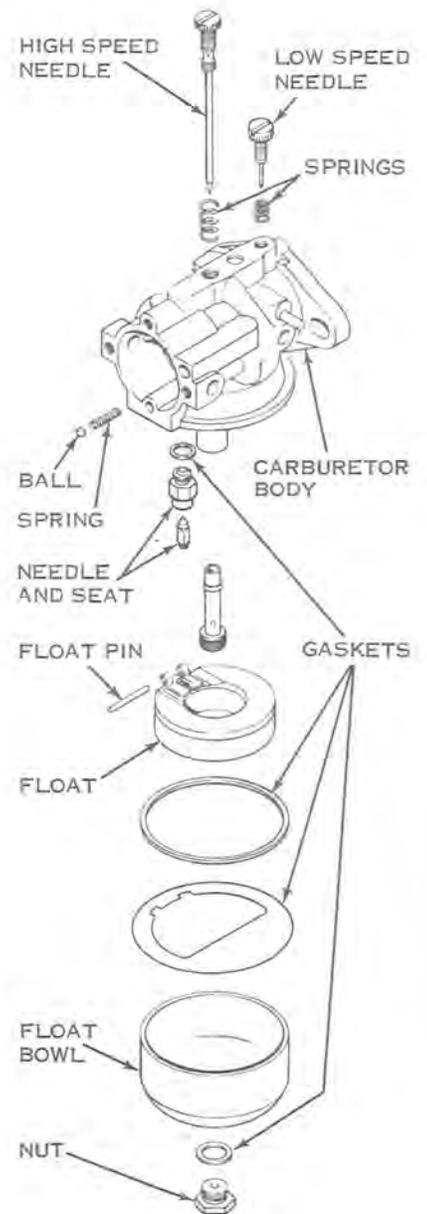

Figure 5-4
- b. Drain carburetor by removing nut and gasket from float bowl (see Figure 5-4).